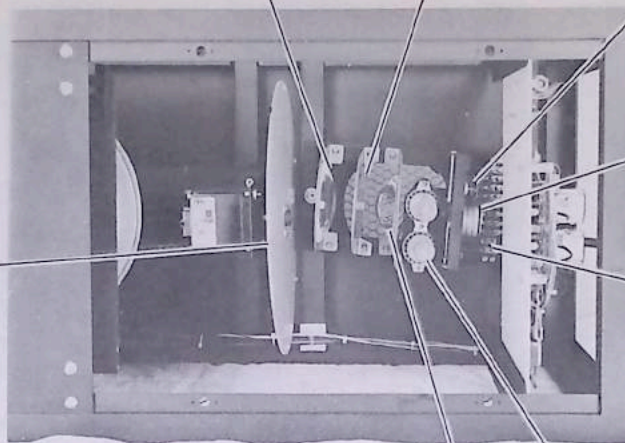

FIG. 3
Lamp changer frame retaining screws loose.	Check retaining screws(2). Fig. 3.
Gearmotor vibration.	Check for loose gearmotor retaining screws (2). Two places. Fig. 3.